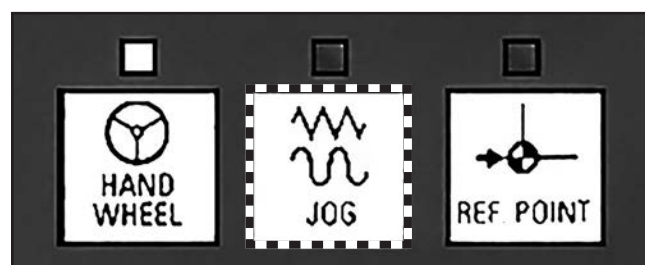

Figure 111. Jog key on MCP.
3. Press JOG key to enter JOG mode (see **Figure 111**).